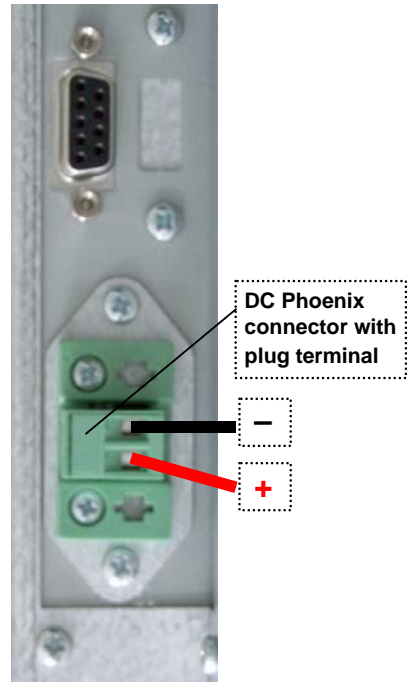

Fig. 10a: DC Phoenix connector with plug terminal (supplied)
5. Insert the negative and positive voltage wire into the corresponding clamp of the Phoenix plug terminal. Make sure that you have the right polarity of the connection (see *Fig: 10a*).